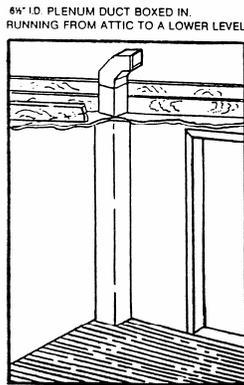

Figure 5. Typical Plenum Vertical Layout
7. **Side Branch:** For a side branch, turn the tee 90° and never use a turning vane. Take no more than 30% of the airflow from the side branch (see Figure 5).